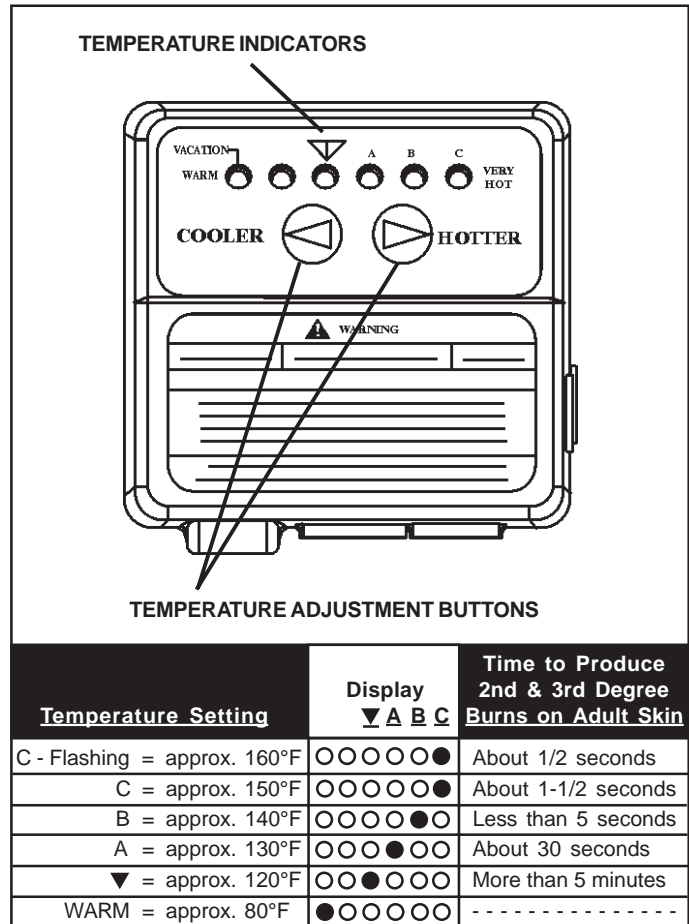

FIGURE 10
Figure 10 shows the approximate water temperatures produced at various thermostat settings. Short repeated heating cycles caused by small hot water uses can cause temperatures at the point of use to exceed the thermostat setting by up to 30°F. If you experience this type of use you should consider using lower temperature settings to reduce scald hazards.
1. "Wake Up" the temperature indicators by holding down both the "COOLER" and "HOTTER" temperature adjustment buttons at the same time for one second, see Figure 10. One or two of the temperature indicators will light up. These indicators will only remain on for 30 seconds if no further buttons are pressed. After 30 seconds the control will go back to "Sleep" mode.